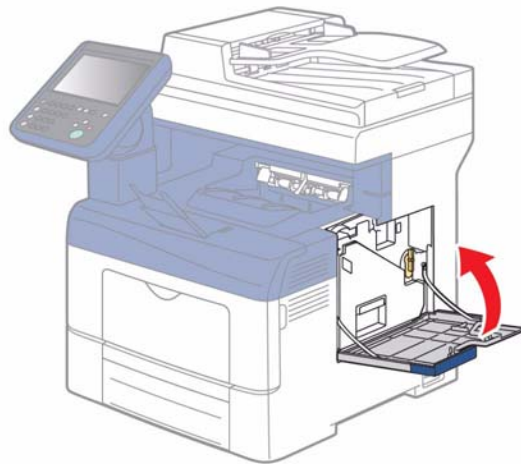

Figure 11 Close the Side Door
10. Close the side door, Figure 11.